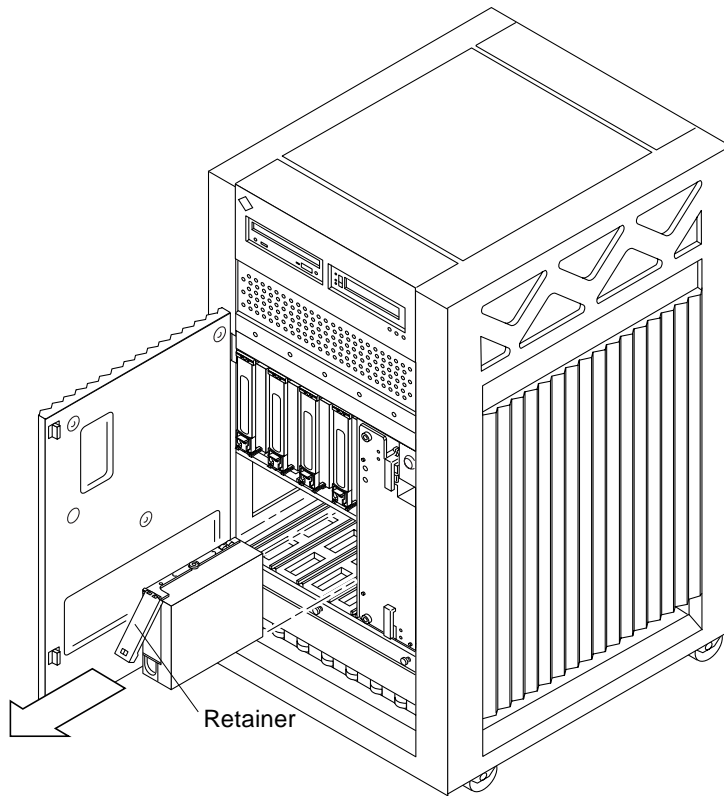

FIGURE 8-6 Disk Drive With Retainer Unlatched and Extended
- a. **Unlatch the drive retainer and extend it 45 degrees. Use the extended, unlocked retainer as a handle (FIGURE 8-6).**
3. **Unlatch and then extend the drive retainer to the unlocked position (FIGURE 8-6).**